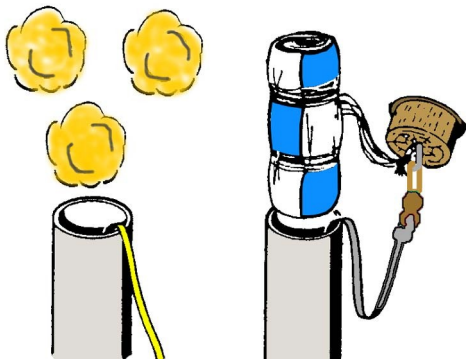

Figure 10
- **Step 20** Use prepackaged flameproof wadding, or shredded cellulose insulation, to protect the parachute from hot gasses and particles at deployment. As shown in Figure 10, use at least five sheets, loosely crumpled into balls, or about 2" of shredded fill, loosely packed into the tube. You are trying to provide a gas seal, not an immovable wall. Next, push the shock chord and anchor line into the tube, followed by the parachute. Insert the nose cone, and check for fit. If the nose is too tight, lightly sand the shoulder with 220-grit paper until it just fits snugly. If the fit is too loose, wrap pieces of masking tape around the shoulder until the fit is correct. If the nose cone does not pop out cleanly at deployment, the parachute will not open and the rocket will fall too fast, resulting in damage to the rocket.